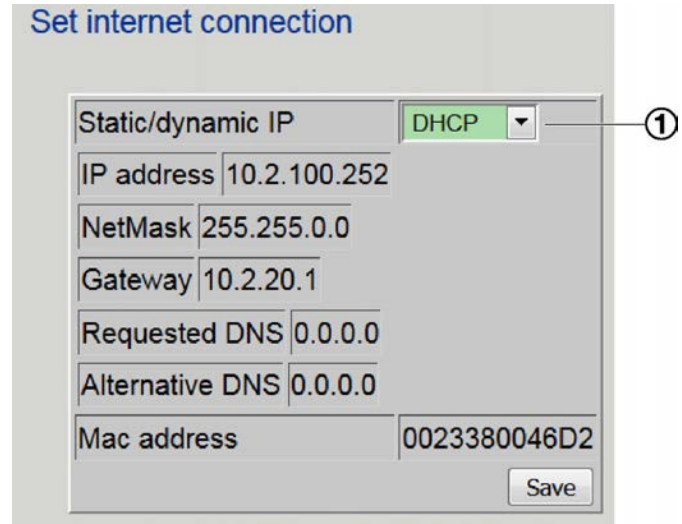

Fig. 28: Setting a dynamic IP address
- ▶ Select 'DHCP' from the drop down list (Fig. 28/1).